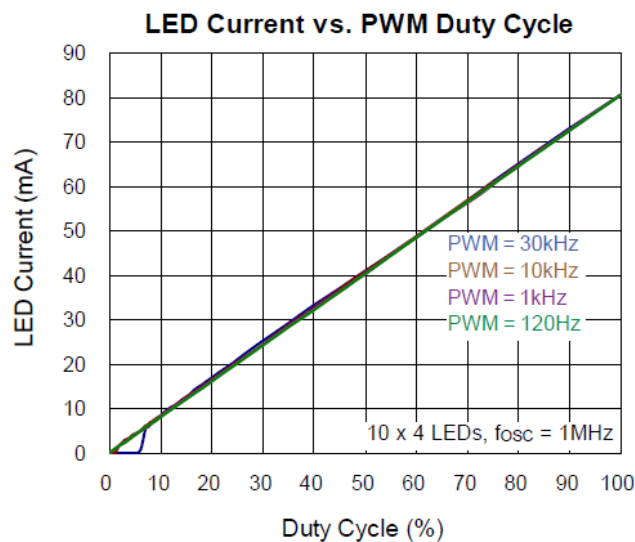

Figure 4. RT8510 PWM Dimming Linearity
4. **LED Current Linearity:** For PWM dimming, the output LED current varies with PWM duty cycle. The relationship between these two is described as linearity. The LED current linearity will become degraded for low PWM duty ratio and high PWM dimming frequency. Figure 4 displays the RT8510 PWM Dimming Linearity.